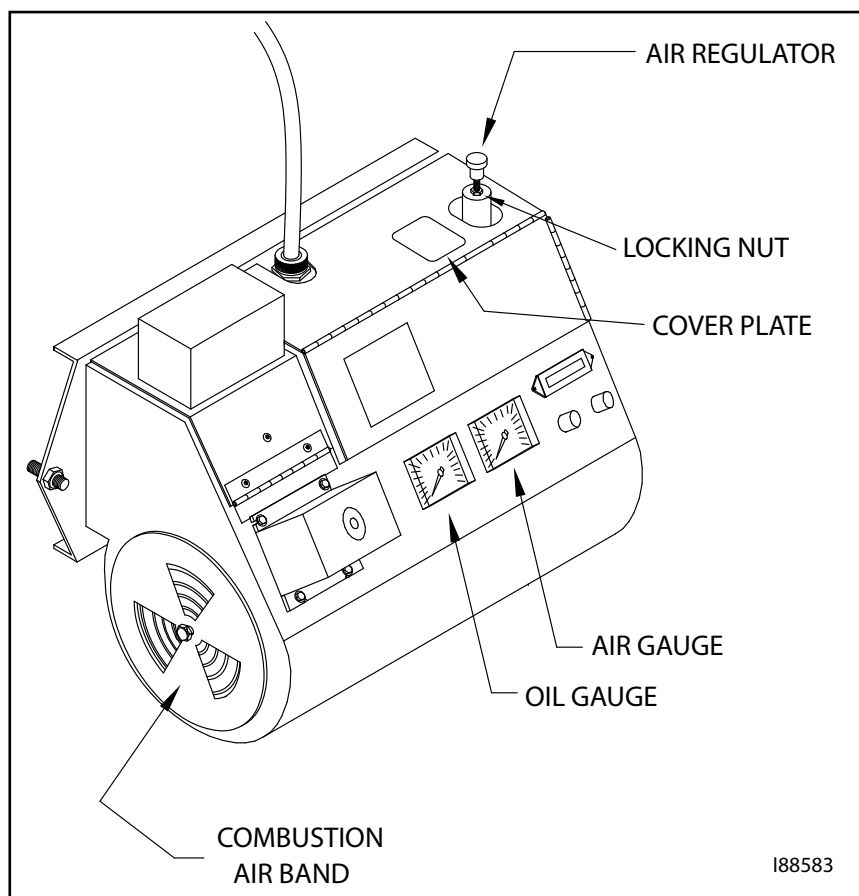

Figure 6A - Component Detail of the CB-525-S2 Burner
4. Refer to Figure 6A to locate the air regulator.
- Refer to Figure 6A to locate the combustion air band.
- Refer to Figure 6A to identify the combustion air band location on the burner.